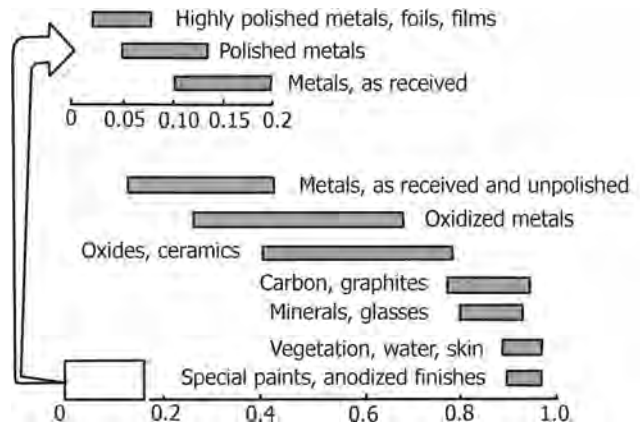

FIGURE 14.1 Emissivity ranges of different materials.
- Figure 14.1 represents emissivity ranges of different materials.